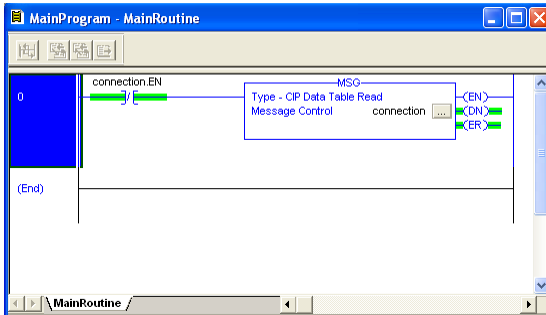

Figure 58: Complete Program
6) The program is now complete. Refer to Figure 58.